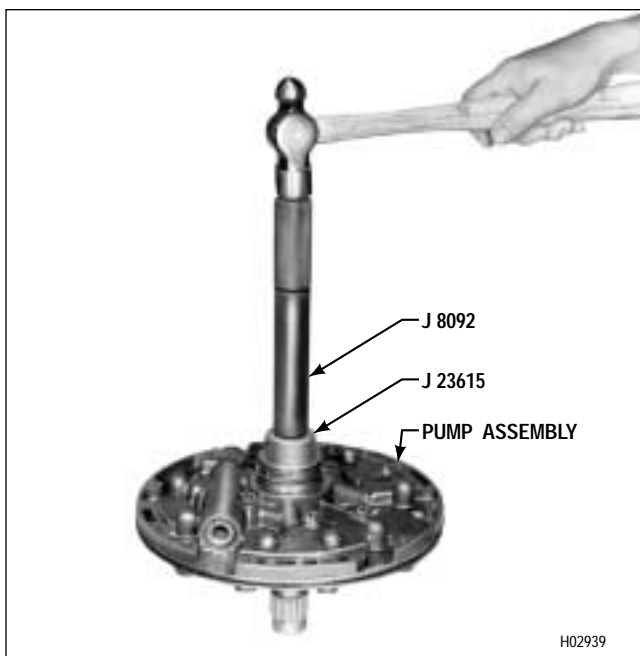

Figure 6–32. Installing Stator Shaft Rear Bearing (Models without Lockup)
(1) For models without lockup, if roller bearing 23 was removed, using installer J 23615, press on the lettered end of the new bearing to a depth of 0.595–0.615 inch (15.11–15.62 mm) from the end of the shaft (Figure 6–32).
(2) Install valve plug 14 (earlier models) into the main pressure regulator valve bore of front support 21. Install pin 15 (earlier models) into the pump body side of front support 21. Skip Step (3) and proceed with Step (4).
(3) For models with lockup, if roller bearing 23 was removed, using installer J 39794, press on the lettered end of the new bearing to a depth of 0.625–0.635 inch (15.88–16.12 mm) from the end of the shaft.
(4) Install main-pressure regulator valve 27, smaller end first, into its valve bore.
(5) Into the same bore, install valve spring 26 and spring stop 25 (smaller end first).
(6) Install main-pressure regulator valve installer tool J 24787 (Figure 6–24). Restrain spring stop 25 (Foldout 7,B) and install snapping 24, **flat side outward**. Remove the tool from the assembly.
- **For models without lockup, proceed with Step (9).**
- **For models with lockup, skip Steps (9) and (10), and proceed with Step (11).**
(9) For models without lockup, if bushing 7 was removed, install a new bushing. The split in the bushing must be located in an area of the bore that can completely support it. Use installer tool J 25356 to press the bushing into the front of the pump body to a height of 0.010–0.020 inch (0.25–0.51 mm) above the surface.
(10) Using special installer tool J 21359-A, install oil seal 3, with the lip facing inward (Figure 6–33). Skip Steps (11) and (12) and proceed with Step (13).
(11) For models with lockup, if bushing 7 was removed, install a new bushing. The split in the bushing must be located in an area of the bore that can completely support it. Use installer tool J 39739 to press the bushing into the front of the pump body to a depth of flush to 0.398 inch (10.11 mm).
(12) Using special installer tool J 39757, install oil seal 3 with the lip facing inward (Figure 6–33).
(13) Lubricate and install sealring 4 (Foldout 7,B) onto pump body 8. Lubricate and install driven gear 9 and drive gear 10.